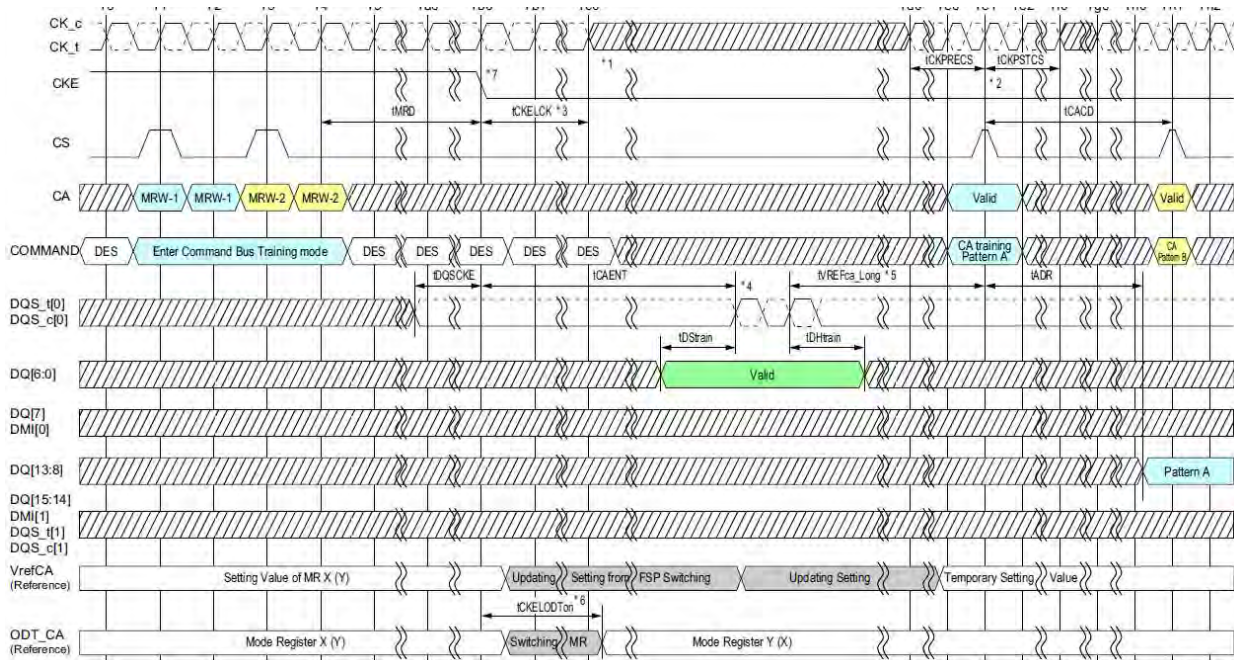

Figure 98 - Entering Command Bus Training Mode and CA Training Pattern Input and Output with V_{REFCA} Value Update
The LPDDR4-SDRAM uses Frequency Set-Points to enable multiple operating settings for the die. The LPDDR4-SDRAM defaults to FSP-OP[0] at power-up, which has the default settings to operate in un-terminated, low-frequency environments. Prior to training, the mode register settings should be configured by setting MR13 OP[6]=1B (FSP-WR[1]) and setting all other mode register bits for FSP-OP[1] to the desired settings for high-frequency operation. Prior to entering Command Bus Training, the SDRAM will be operating from FSP-OP[x]. Upon Command Bus Training entry when CKE is driven LOW, the LPDDR4-SDRAM will automatically switch to the alternate FSP register set (FSP-OP[y]) and use the alternate register settings during training (See note 6 in Figure 98 for more information on FSP-OP register sets). Upon training exit when CKE is driven HIGH, the LPDDR4-SDRAM will automatically switch back to the original FSP register set (FSP-OP[x]), returning to the “known-good” state that was operating prior to training. The training values for VREF(CA) are not retained by the DRAM in FSP-OP[y] registers, and must be written to the registers after training exit.